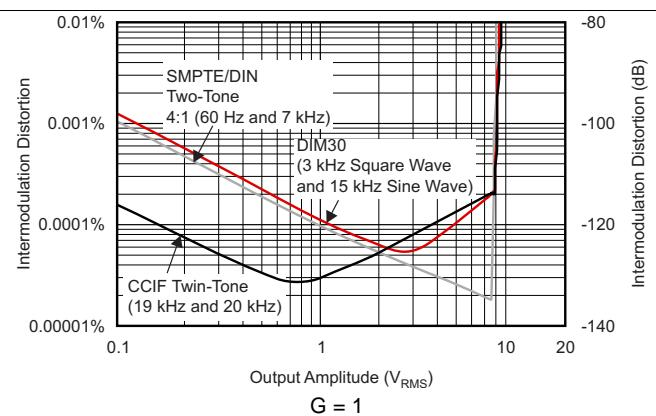

Figure 10. Intermodulation Distortion vs Output Amplitude
(1) For measurement bandwidth, see Figure 7 through Figure 10.